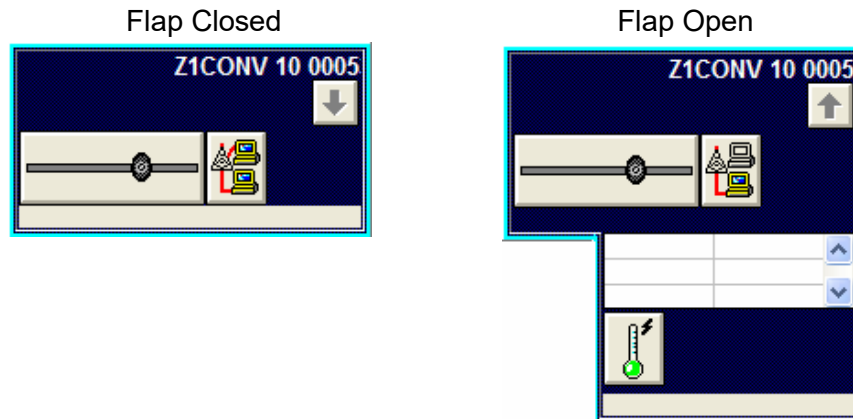

Figure 1-3: Larger Compressed Radio Resource
- **Larger Compressed Resource**—A radio resource that always shows some of the indicators and controls, but allows the dispatch console to hide some of the others (Figure 1-3).